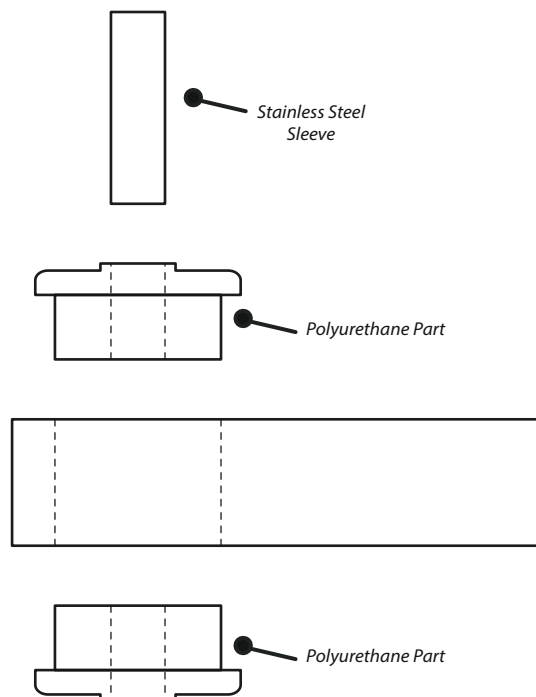

Figure 1
4. Push a second polyurethane part into the bore of the arm from the opposite side, as shown in figure 1.